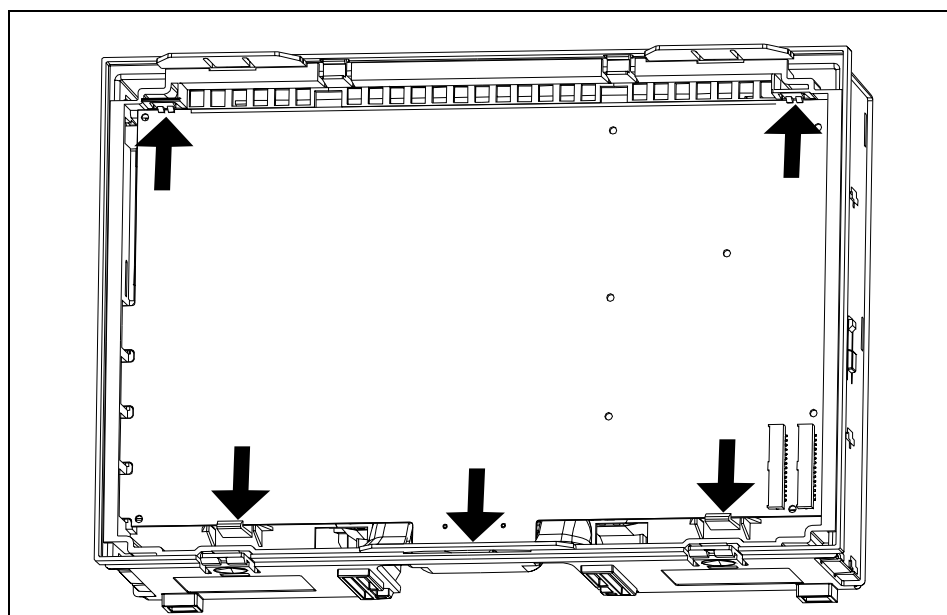

Fig. 3-19 Location of Locking Tabs Securing Processor Board Subassembly
The Main Processor Board Subassembly is mounted in a conductive moulded plastic RFI cage that forms part of the integrated subassembly, with a metal RFI shield secured to the board on the access side of the cage. The board is positioned by its shape, and by channels cast into the sides of the IBP and IBP/Aux. connectors, that slide onto the sides of the access ports in the side of the cage. Also, a 48-pin connector located on the backside of the board, on the lower half near the center, plugs into the power conversion board. The subassembly is secured in the cage by five locking tabs (see Fig. 3-19).
- 7) With the cage oriented as shown in Fig. 3-19, lift up on the docking station connector as you press in the center tab at the connector, and then press in the tabs to the left and right of the center tab as you continue an upward pressure on the connector.
- 8) Lift up on the right-hand side of the board as you release the tab lock at the top right, and then release the tab lock at the top left and lift the board out of the cage. See Fig. 3-19.
- 6) Route the ID chip cable through the slot by the power cable between the power conversion board and the front end board as illustrated in Fig. 3-19.